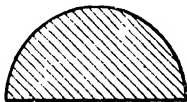

Fig. 19. —Section of Bamboo Worker's Rasp.
**Bamboo Worker's Tools.** These consist of hammer, pincers, screwdriver, tenon saw, bradawls, and, in short, of such wood-working tools as the handyman usually possesses, with the addition of a very few special ones. Special rasps, of sharper curve than ordinary ones, are used (see the section, Fig. 19) for hollowing out the ends of bamboo canes. The requisite curve could not be obtained by using a knife. Bamboo rasps are made in all sizes from